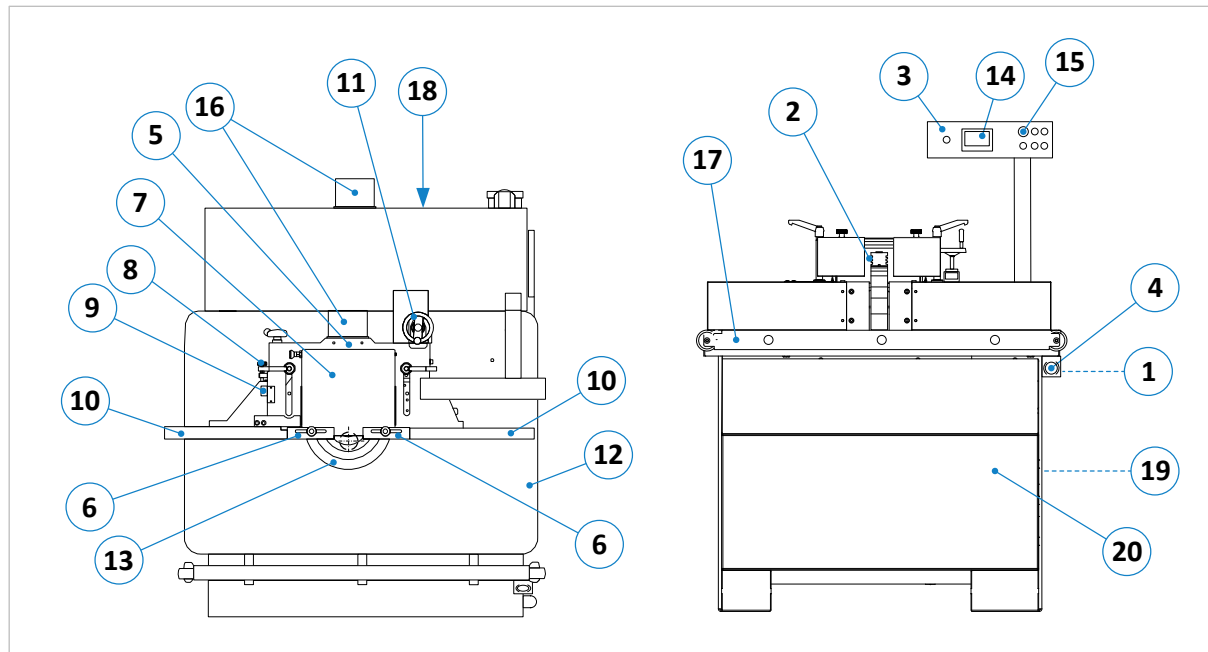

Figure 11: Components and Controls
In case of danger or malfunctions in the work process, the machine can be stopped quickly and reliably via the emergency stop button (4) on the control panel and the emergency stop button (15) on the front (⇒ Figure 11).